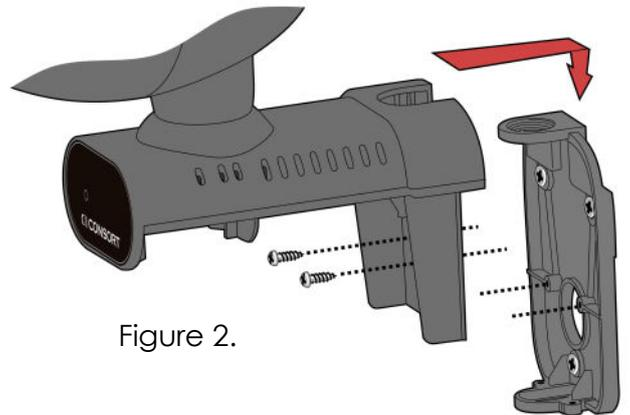

Figure 2.
**Step 2:** Attach the heater to the mounting bracket. Use two of the supplied screws to secure the heater to the mounting bracket. This is shown in the diagram in Figure 2.